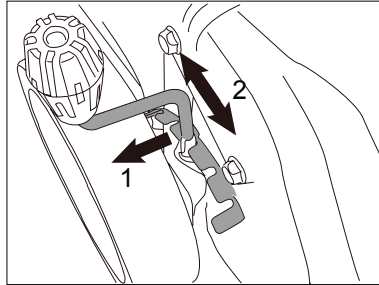

Fig 9
1. Setting the Cutting Height (Fig 9)